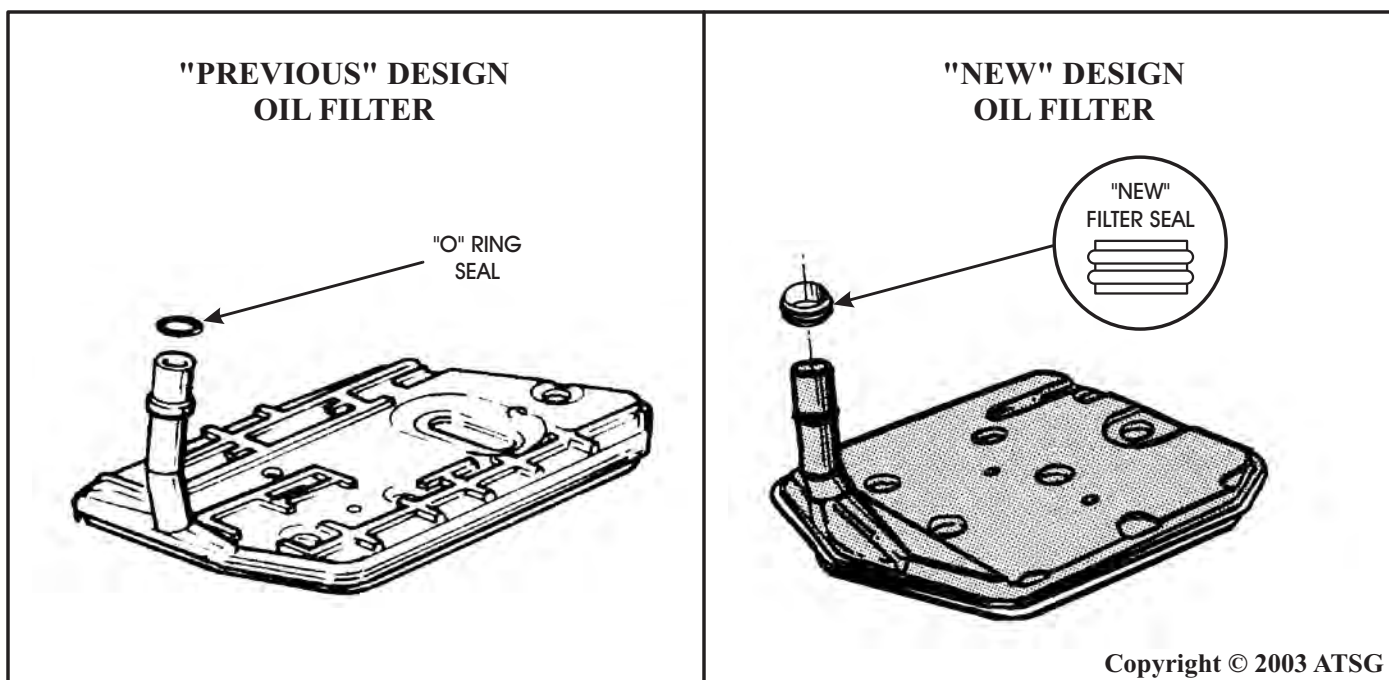

Figure 52
CHANGE: Beginning on July 6, (Julian Date 187) 1987, there was a new oil filter and oil filter seal that went into production on all models of the THM 700-R4, as shown in Figure 52.
- (1) **OIL FILTER** - The new design filter is wider, has a felt media type element in place of the previous screen, and is bottom suction instead of top suction, as shown in Figure 52.
- (2) **OIL FILTER SEAL** - The new design seal is two rubber lips molded to a steel sleeve and the seal is glued onto the filter neck, as shown in Figure 52.